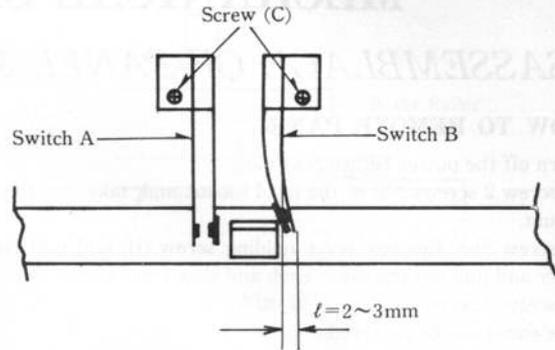

Fig. 5
Adjust the position of switches by screw (C) so that above condition is satisfied. (See Fig. 5.)